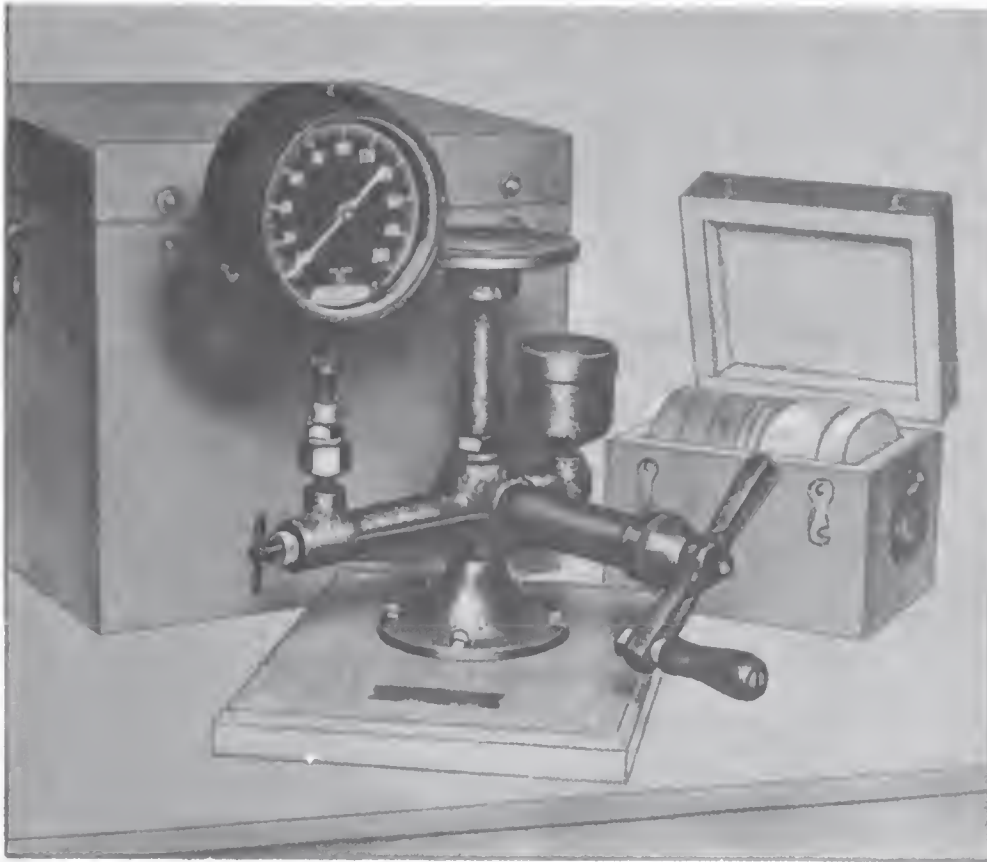

Figure 253. — Deadweight pressure gage tester.
*Deadweight tester.* — Gages are tested either by comparing them with a standard test gage or with a gage-testing apparatus. As an Instrumentman you will use both of these methods. A standard gage-testing apparatus is shown in figure 253. This device, known as a deadweight tester, is essentially a hydraulic